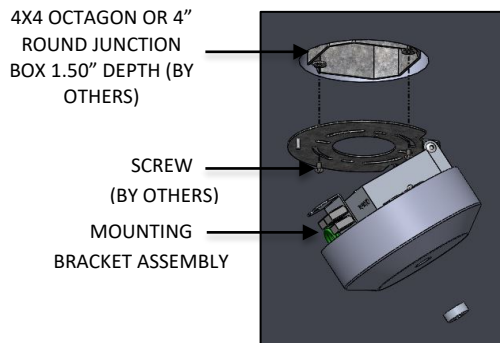

FIG. 7 – MOUNTING BRACKET ASSEMBLY INSTALLATION
3. Attach MOUNTING BRACKET to JUNCTION BOX (by other) as shown below in FIG. 7.